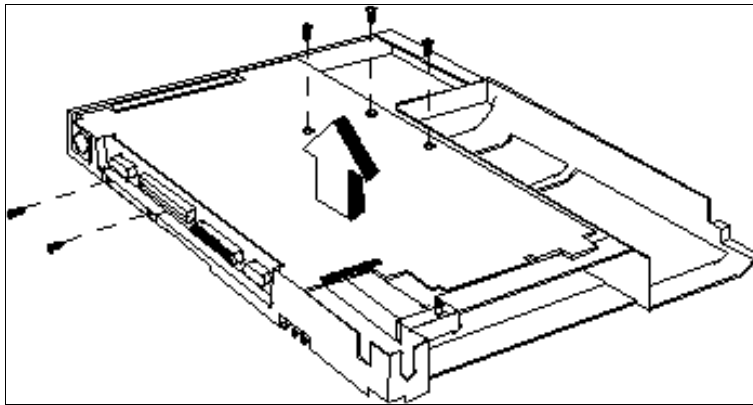

Figure 6-21 Detaching Motherboard from Inside Frame Assembly
5. Remove the five screws that secure the motherboard to the inside assembly frame. Pull up on the Motherboard Assembly to release it from the inside assembly frame (refer to Figure 6-21).